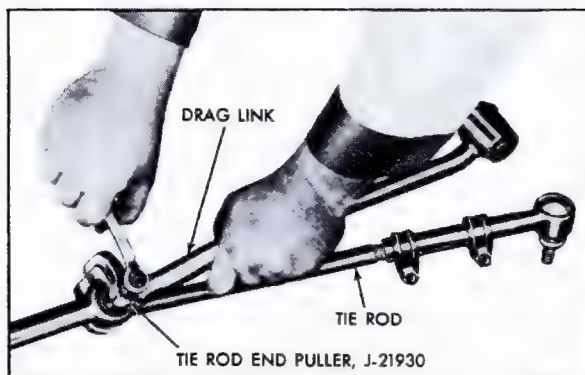

Fig. 9-40 Removing Tie Rod from Drag Link
2. Remove tie rods, using Tie Rod End Puller, J-21930, Fig. 9-40.